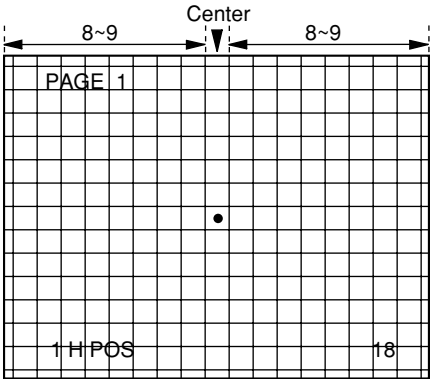

Fig.1-1
- Use the volume keys on the jig remote control to adjust so that the dot mark at the center of crosshatch is positioned at the horizontal center of screen and the squares on the left and right are equal. Fig. 1-1